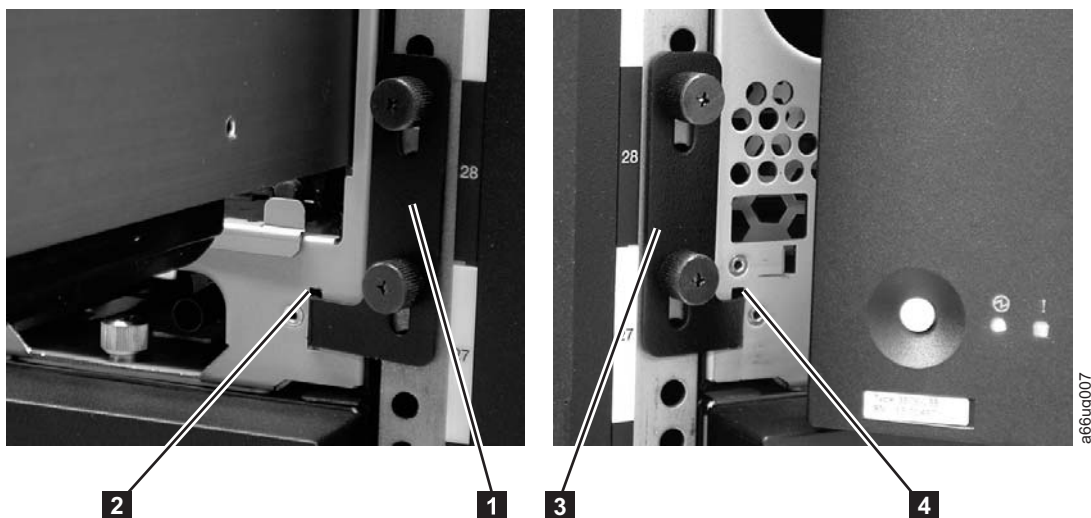

Figure 12-21. Removing the rack ears on a Control Module
- b. Remove the right rack ear ( **2** in Figure 12-21).
- c. Remove the left rack ear ( **3** in Figure 12-21).